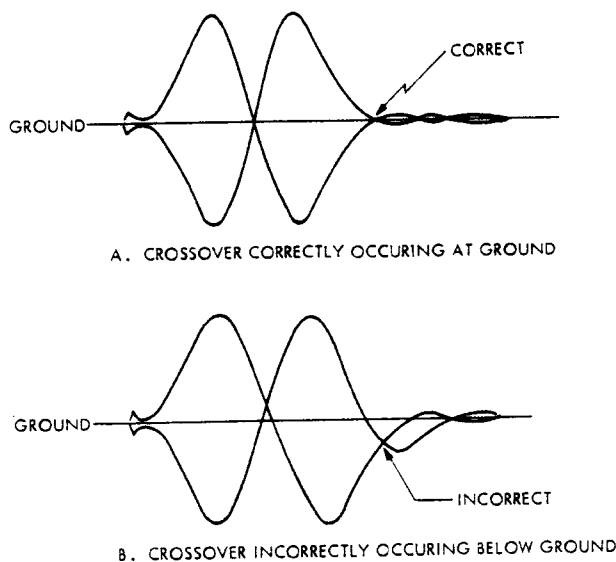

Figure 6-9. X + 0 Waveform Crossover
Adjustment of the reticle is required when the Position mode waveform (Figure 6-9(A)) does not have the crossover point at ground.
- (1) Insert a screwdriver blade into the slot at the top of the receiver post and adjust the reticle so that the waveform observed at TP20 is positioned with its crossover point (Figure 6-9(A)) at ground.